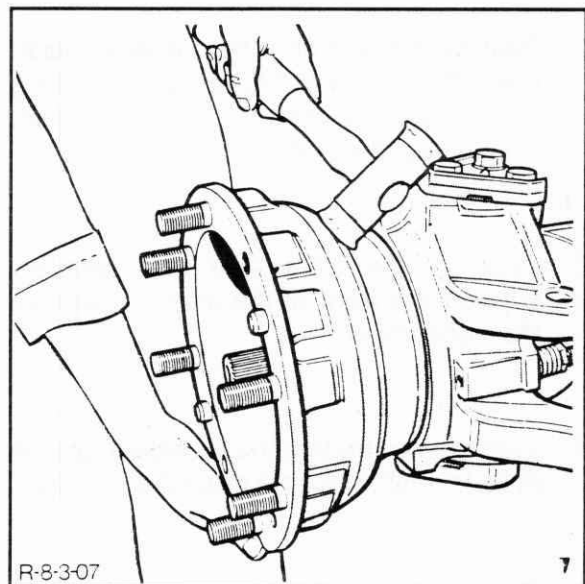

Figure 7-74
8. Carefully pull off the hub assembly. If necessary, tap the hub using a soft-faced mallet on the rear face at equal spaces around periphery, Figure 7-74.